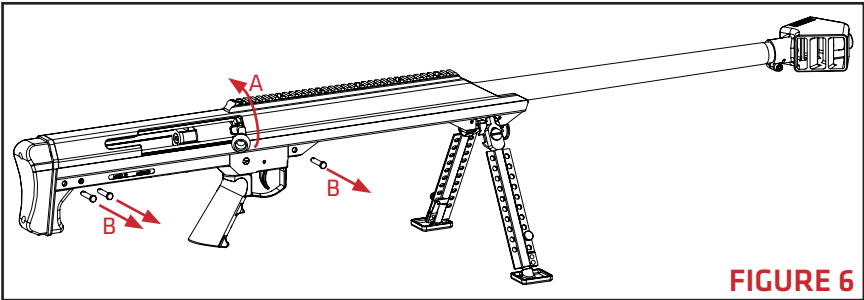

FIGURE 6
2. Raise the bolt handle but do not retract it from the barrel. **(FIGURE 6-A)** Remove the two rear assembly pins and the forward assembly pin **(FIGURE 6-B)**.